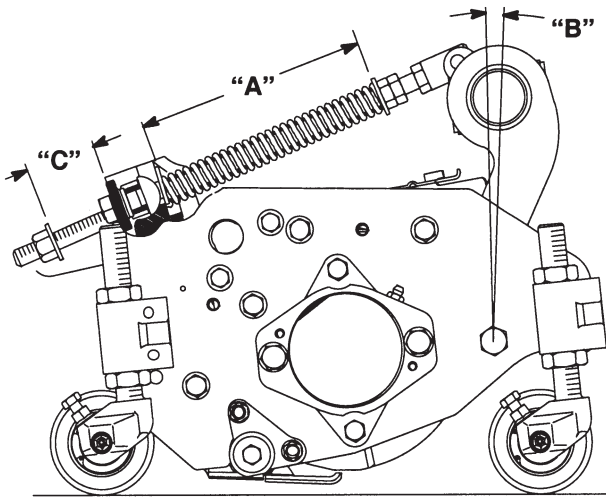

Figure 2
The turf compensation spring (Fig. 2), connecting the carrier frame to the cutting unit, controls the amount of fore-aft rotation available, and the amount of ground clearance in transport and turn around.
1. Tighten the lock nut on the rear of the spring rod until the gap (C) between the rear of the spring bracket and front of the washer is 1" (26 mm) (Fig. 2).
2. Tighten the hex nuts on the front end of the spring rod until the compressed length (A) of the spring is 8" (203 mm) (Fig. 2).